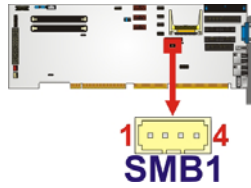

Figure 3-17: SMBus Connector Locations
- CN Location:** See **Figure 3-17**